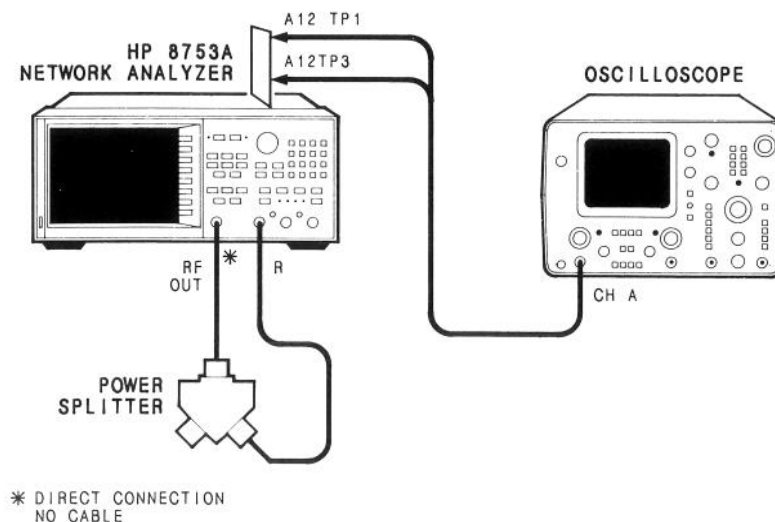

Figure 10. High/Low Band Transition Adjustment Setup.
10. Connect the equipment as shown in Figure 10 and turn on the network analyzer. Allow 30 minutes for warm-up.
1. Remove the top cover of the HP 8753A, connect the equipment as shown in Figure 10, turn on the HP 8753A and allow 30 minutes warm-up. Note that you need not install the A12 board on the extender board now. Then press **[PRESET] [MENU] [CW FREQ] [1] [0] [M/u]** to set the HP 8753A to a CW frequency of 10 MHz (low band).